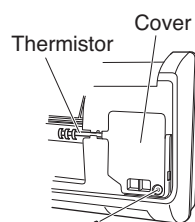

Fig. 17a
- (2) Make sure that the grille and frame are firmly fitted together by engaging the tabs.
- (3) Attach the thermistor on the grille. (Fig. 17a)
- (4) Close the cover and replace the screw. (Fig. 17a)